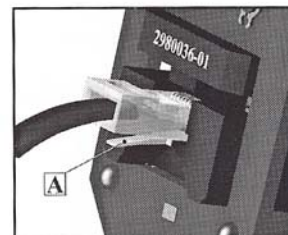

Fig. 3.
After cable and microplug have been prepared, open handtool and insert microplug assembly into the opening of the die set (as shown on Fig.3.) until plugs' locking tab (A) snaps into place. Check if microplug is properly positioned in the die set and slowly close the tool completely until ratchet mechanism is released. Press locking tab (A) on the microplug and remove crimped connection from the die set.